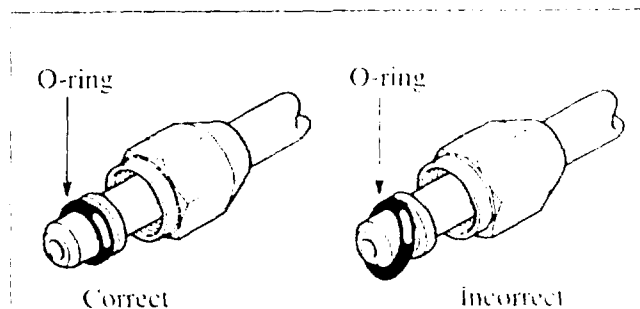

Figure 1: O-Ring Placement
2. Verify the O-ring is clean and free from defects. Place O-ring on pipe. Be sure it is seated properly (figure 1).